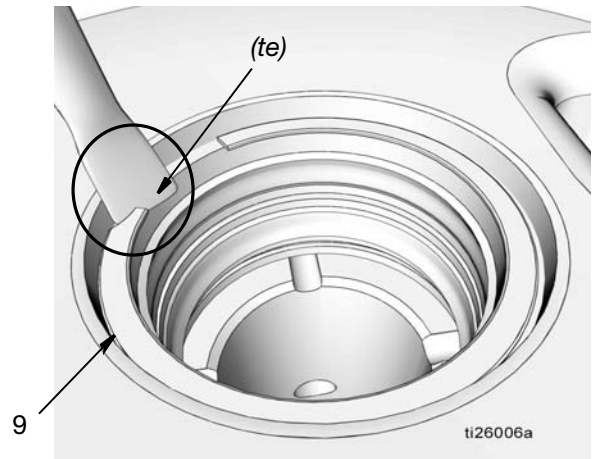

FIG. 25
- a. Use the blade of a small, flat screw driver under the tapered edge (*te*) of retaining ring (9) to remove the ring as shown in FIG. 25.
- b. Remove the tapered spacer (10), seal (11), and spacer (12).
- c. Use the blade of a small, flat screw driver under the tapered edge (*fe*) of retaining ring (51) to remove the ring as shown in FIG. 25 and remove the retaining ring.